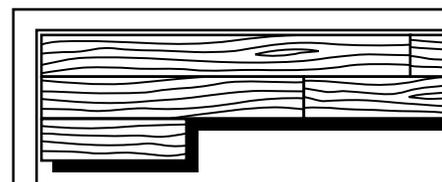

Fig. 2
- Lay the second row starting in the left corner with a plank cut 2/3 the length or about 24" (Fig. 2).
- Start the third row with a plank cut to 1/3 the length; about 12" (Fig. 2).